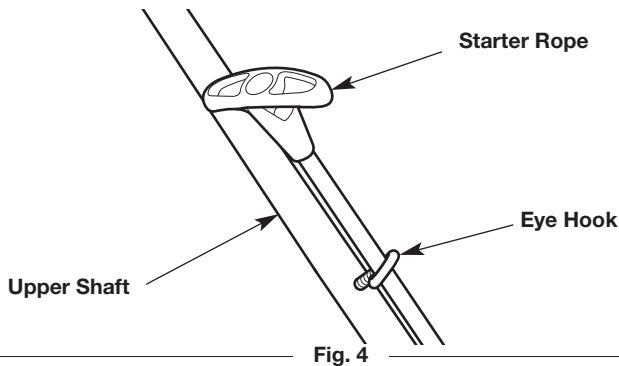

Fig. 4
1. Pull the starter rope and run it through the eye hook (Fig. 4).